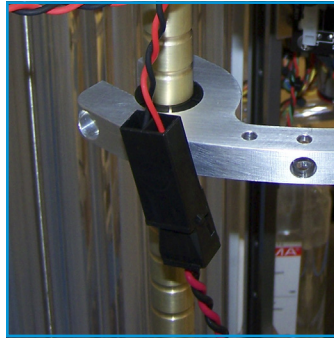

Figure 4-6: Power cable connected to ESP
3. Connect the power cable from the battery setup to the ESP using one of two plugs. See Figure 4-6.